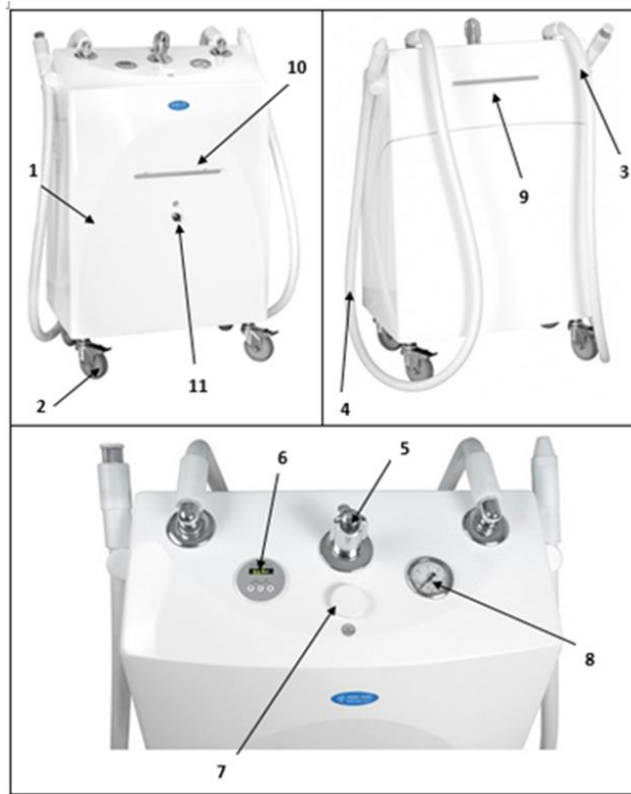

Figure 2 - AQUAMOBIL underwater massage device view with operating and adjustment elements
The control stand is made of glass fiber reinforced plastic. The water installation is made of copper pipes and hoses with braid made of acid resistant steel. External hoses (suction and delivery) are selected to meet the relevant performance requirements. At the inlet of the suction hose there is a filter to protect the pump from damage by contaminants present in the post-treatment water. The AQUAMOBIL device is also equipped with a pressure gauge, thermometer (information on the water temperature is displayed on the control panel during the treatment), disinfection system and transportation handles (fig. 2).
The AQUAMOBIL device is equipped with a system protecting the pump against damage resulting from the dry-running. The system is activated within 5 seconds from the moment the pump is started. This delay is necessary to allow stabilization of the water flow through the hydraulic system. If the water suction hose with filter (fig. 2 pos. 3) remains outside the water tank, the pump will run dry throughout this time. During the treatment session, if a no-water condition is detected by the system, the pump will be switched off after ca. 2 seconds.
After turning the power on and setting the device switch (fig.2 pos.11) in the "I" position, on the display (fig.4 pos.7) you will see moving "START" message.
Do not place objects, e.g. towels or clothes on the bathtub, which could fall into the water and clog the suction hose with filter (fig.2, pos.3) of the AQUAMOBIL device.
Before starting the treatment, personnel should check the pressure of the water stream from the delivery hose (fig.2 pos.4) in order to adjust the optimal intensity of the underwater massage.
2. Locate the underwater massage device close to the bathtub and stabilise its position by blocking the casters with a locking mechanism (fig.2 pos.2).
3. Insert the suction hose with filter (fig.2 pos.3) into the bathtub so that the end of the hose with filter is permanently submerged at least 10 cm under the water level and at the same time so that the filter does not touch the patient in the bathtub
4. Set the device switch (fig.2 pos.11) to the "I" position.
5. Unscrew the shut-off and pressure control valve (fig.2 pos.5), which allows you to adjust the water pressure in the jet.
7. During the underwater massage procedure, control the water pressure by reading the values displayed by the built-in pressure gauge (fig.2 pos.8).
8. When the procedure is finished, turn off the device using the "START" button (fig.4 pos.4) on the control panel and turn off the pressure control valve (fig.2 pos.5).
9. Set the device switch (rys.2 pos.11) to the "0" position.
The filter on the suction hose (fig. 2 pos.3) must be checked and cleaned each time after treatment. Failure to do so may result in clogging of the filter and improper activity of the AQUAMOBIL and damage to the pump.